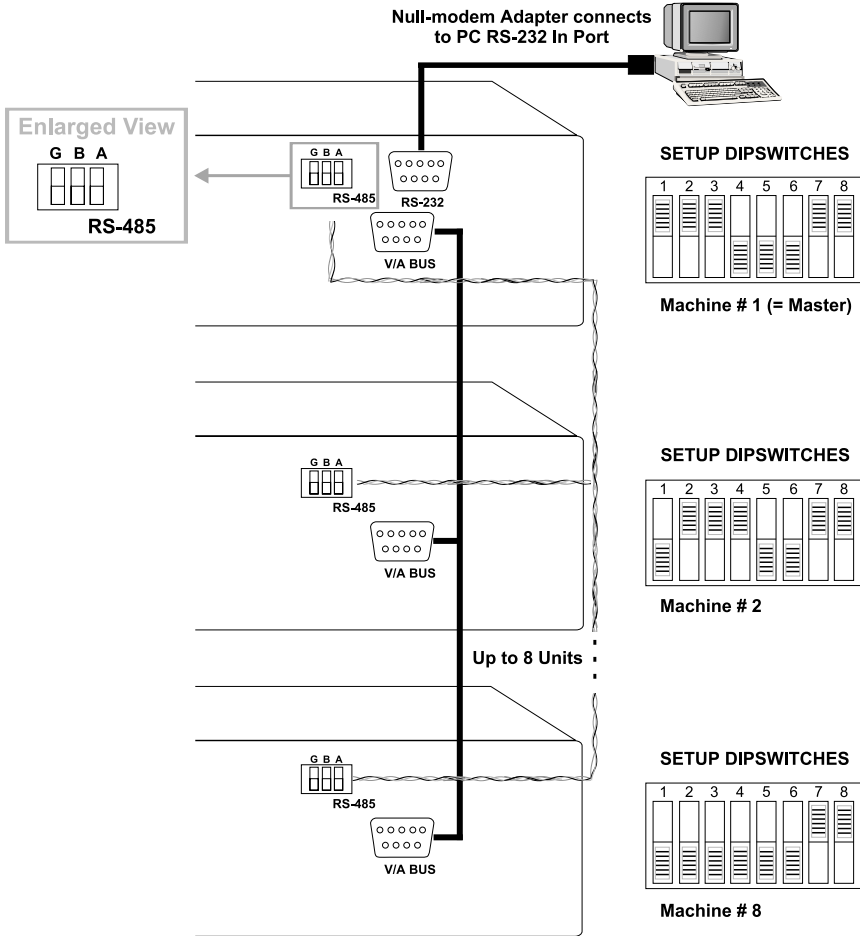

Figure 7: Cascading Units in an Input Expansion Configuration
You can cascade up to 8 interconnected **VS-802xl** units to form an input expansion configuration. For example, to create a 64 x 2 switcher (64 inputs and 2 outputs) connect as Figure 7 illustrates.
3. Connect the RS-485 terminal block port on the first **VS-802xl** unit to the RS-485 port on the second **VS-802xl** unit and so on, connecting all the RS-485 ports, as Figure 7 illustrates.
4. Interconnect the *V/A* (video/audio) *BUS* DB9F connectors between the **VS-802xl** units¹, as Figure 7 illustrates, using a 9 wire flat cable² with DB9M connectors, as follows: